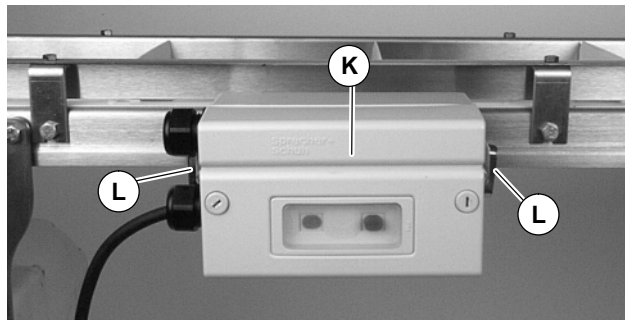

Figure 13
12. Attach motor starter (K of Figure 13) to clips with screws (L). Tighten to 10.4 Nm.